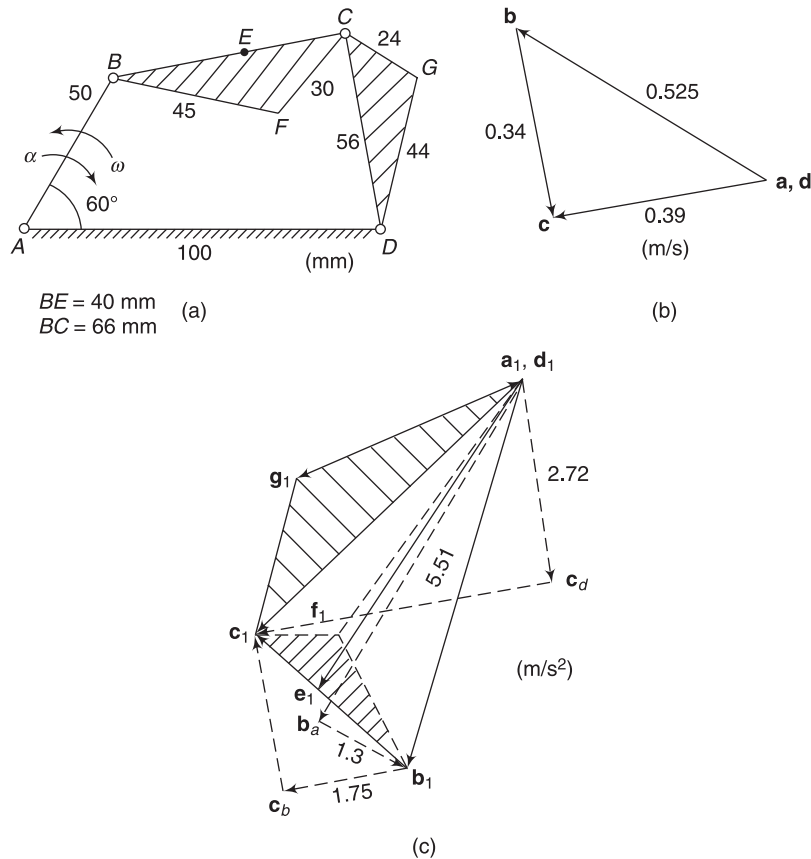

Fig. 3.5
Example 3.1 Figure 3.5(a) shows the configuration diagram of a four-link mechanism along with the lengths of the links in mm. The link AB has an instantaneous angular velocity of 10.5 rad/s and a retardation of 26 rad/s^2 in the counter-clockwise direction. Find
Complete the velocity diagram [Fig. 3.5(b)] as explained in Example 2.1.
- (i) Take the pole point \mathbf{a}_1 or \mathbf{d}_1 [Fig. 3.5(c)].